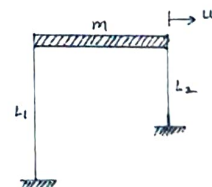

Figure 2
- Q.2.** The rigid frame shown in Figure 2 is fixed at the based and has a rigid top weighing 1000 kg . The columns are assumed to be massless and have lengths $L_1 = 4 \text{ m}$, $L_2 = 2 \text{ m}$. The flexural rigidity of the columns is taken to be $EI = 40 \times 10^6 \text{ Nm}^2$. The frame is subjected to free lateral vibrations, and damping is neglected.